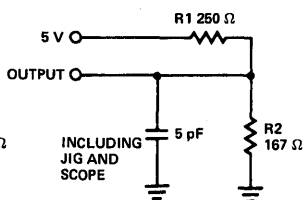

Figure 1b
8. t_{HZCS} is tested using the load shown in Figure 1b. The transition time is measured from 1.5V on the CS low to high transition to the output transition through the ± 500 mV level relative to the 2.0V bias voltage ($V_{THZCSL} = 1.5V$, $V_{THZCSH} = 2.5V$).